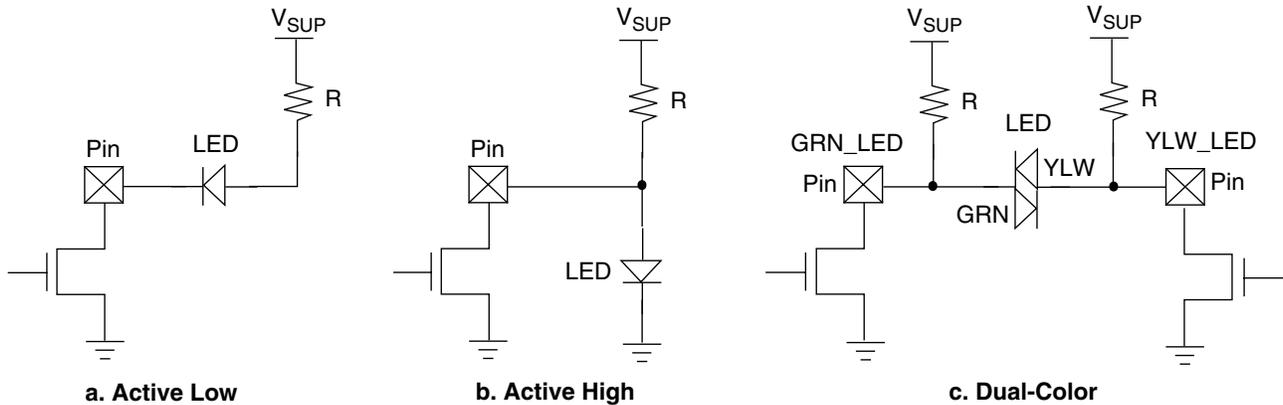

Figure 14. LED Connection Configurations
The LEDs can be connected to PC8374L using one of the configurations shown in Figure 14.
In this mode, two regular LEDs must be connected to the GRN_LED and the YLW_LED pins, according to configuration “b” (Active High) in Figure 14.
Table 37 on page 91 shows the states of the GRN_LED and YLW_LED pins. The LEDs are connected according to configuration “b” (see Figure 14); therefore, a LED is on when the pin is floated and off when the pin is at low level (0).
In the Advanced LED control option, one dual-color LED or two regular LEDs can be connected to the GRN_LED and the YLW_LED pins, using any of the configurations shown in Figure 14. LEDCFG and LEDPOL bits in ALEDCTL register (at offset 02h; see Section 4.3.4 on page 93) must be set to reflect the connection configuration of the LEDs.
LEDCFG bit selects either configurations “a” and “b” (two regular LEDs are connected between each pin and ground or V_{SUPP}) or configuration “c” (one dual-color LED is connected between the GRN_LED and YLW_LED pins). LEDPOL bit selects the polarity of the On state at both pins (GRN_LED and YLW_LED). Table 35, shows the value of LEDCFG and LEDPOL bits for each LED connection configuration in Figure 14, and also the state of the GRN_LED and YLW_LED pins for which the LED(s) are On.
| LEDCFG | LEDPOL | GRN_LED | YLW_LED | Connection (See Figure 14) |
Special LED control is the default LED control option. In the Special LED control option, configuration “b” or “c” in Figure 14 can be used.
Table 39 on page 94 shows the states of the GRN_LED and YLW_LED pins. The LEDs are connected according to configuration “b” (see Figure 14 on page 87); therefore, a LED is On when the pin is floated; it is Off when the pin is at low level (0).